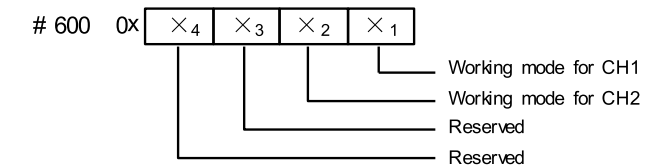

Figure 2-1 Mode setting element vs. channel
6. BFM#600: channel mode selection, used to set the working modes of CH1-CH2. See Figure 2-1 for their correspondence.